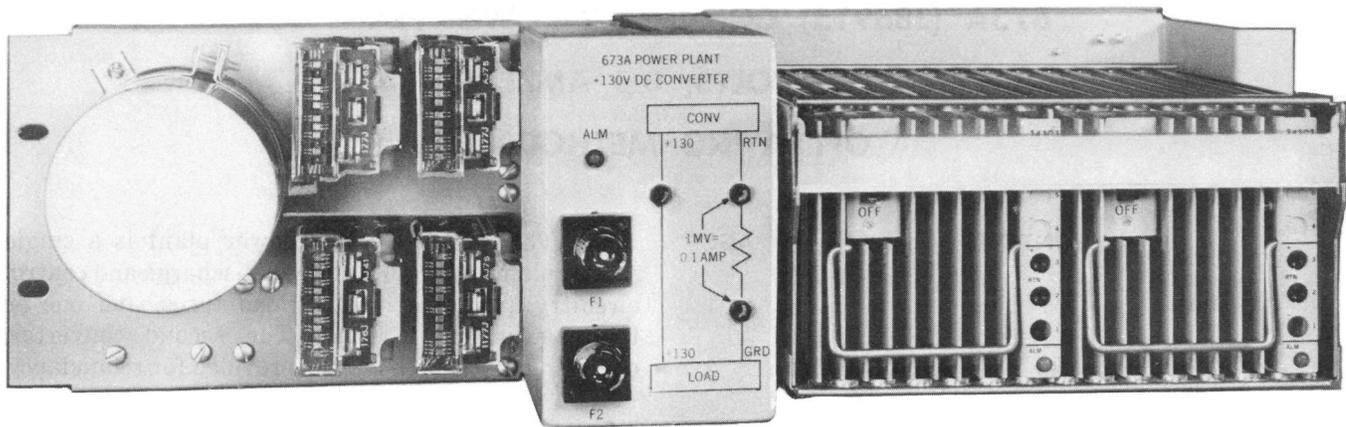

Fig. 1—673A Power Plant—Two-Converter Configuration
1.06 The converter panel (Fig. 1) mounts two converters and their associated alarm relays and output resistors as well as the fuse and fuse alarm features. The two-converter positions on the panel, including associated apparatus, are designated A and B. When only one converter is equipped, it will normally occupy position A. Position B may be used as an alternative if the input feeder is wired to position B.